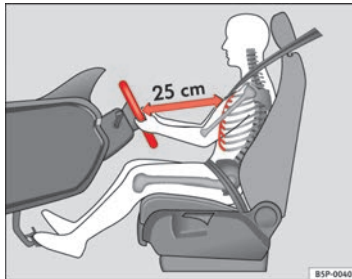

Fig. 1 The correct distance between driver and steering wheel
- Adjust the steering wheel so that there is a distance of at least 25 cm between the steering wheel and the centre of your chest ⇒ Fig. 1.
- Adjust the driver seat so that there is at least 25 cm distance between the centre of the chest and the centre of the steering wheel ⇒ Fig. 1. If distance is less than 25 cm, the airbag system may not protect you properly.